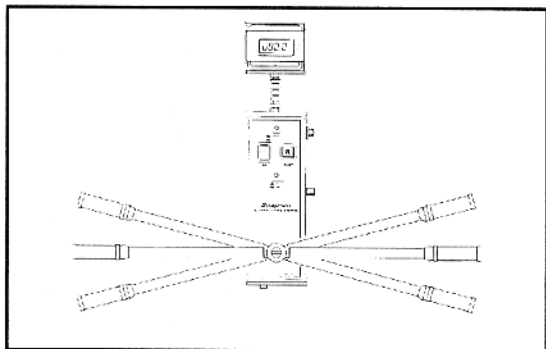

Figure 3: Wrench Position, Perpendicular to Tester
3. Install the tool on the torque transducer using the internal-internal drive adaptor. For additional information refer to *Figure 3*.
4. Install the tool on the torque transducer using the internal-internal drive adaptor. For additional information refer to *Figure 3*.